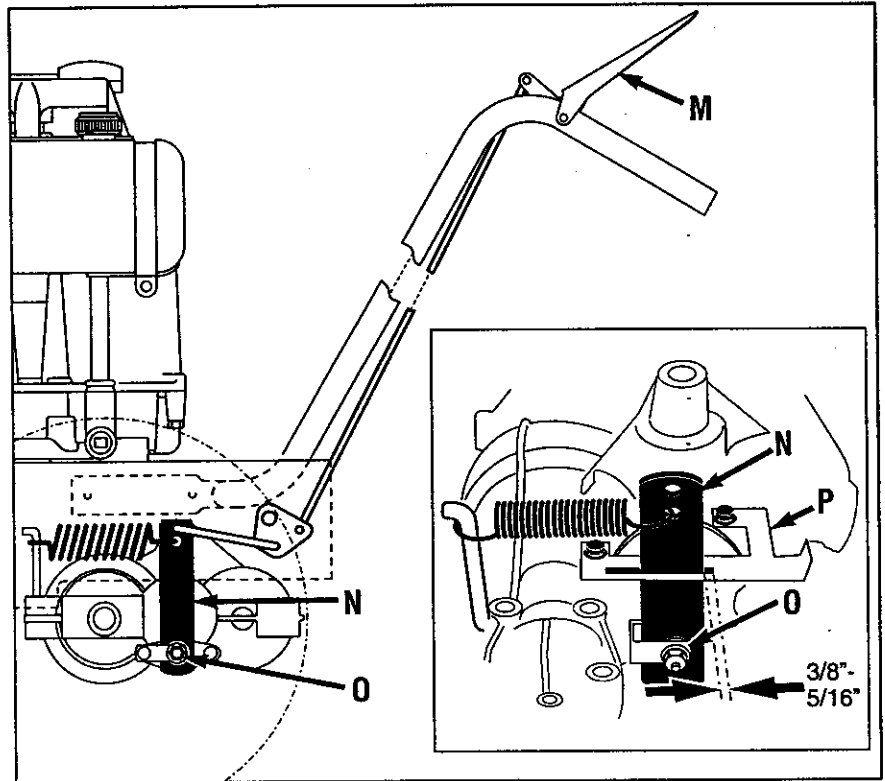

Figure 5-13: Wheel brake adjustment.
2. Disengage (release) the Operator Presence Control (M, Figure 5-13).
3. Slowly adjust at nut (O), if necessary, until the distance between the back of brake arm (N) and bracket (P) is $3/8''-5/16''$. Use small adjustments ($1/4$ turn maximum). NOTE: It may be necessary to relieve spring tension when decreasing distance. To do so, have an assistant engage the Operator Presence Control while you adjust the nut.
3. Hold down Operator Presence Control (M, Figure 5-13) and push unit forward and backward. Unit should move freely. If not, continue with Step 4.